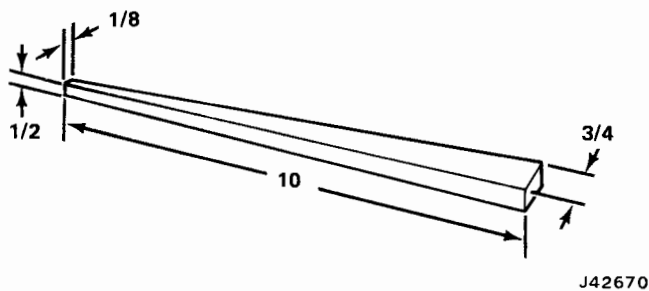

Fig. 17-1 Wooden Wand Dimensions (Inches)
- (1) Cover adjoining painted surfaces to protect finish.
- (2) Remove windshield wiper arms using a wide blade screwdriver.
- (3) On vehicles with stainless steel mouldings.
- (4) Slide center moulding clip to left or right and remove bottom mouldings. This will expose the locking type weatherstrip.
- (5) Use a wedge-shaped fiber or hardwood stick or wand as shown in figure 17-1 to unlock the weatherstrip as shown in figures 17-2 and 17-3. The locking type weatherstrip without mouldings is shown in figure 17-3.